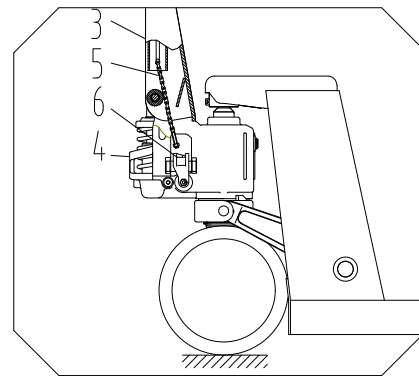
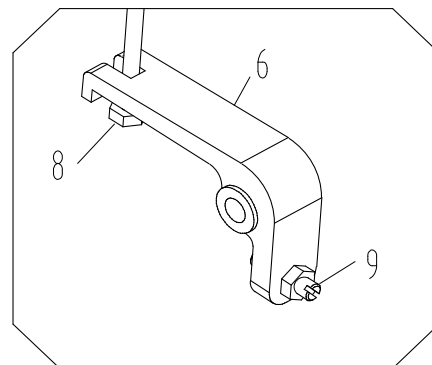

Fig.2
Fig.4
3.3 See fig 2. Put the chain 4 of hand grip get across the middle hole of pin roll 2.
- 3.4 Take screw nut which is at the end of chain 5 and hitch the groove of lever board 6. See fig 2 and fig 4.
- 4.2 The screw 9 in fig 4 is used to adjust the truck situation. When the truck body drops immediately after it is lifted, you should turn the screw 9 a little counter-clockwise. And then try the truck again until truck body could lift normally. If the truck body couldn't drop after it is lifted, you should turn the screw 9 a little clockwise. And then try to operate truck again until the truck body could drop normally. The external hexagon nut 10 at screw 9 plays the locking function in the truck. So you should undo the external hexagon nut 10 before adjustment. And screw down the nut 10 after you finish the adjustment.